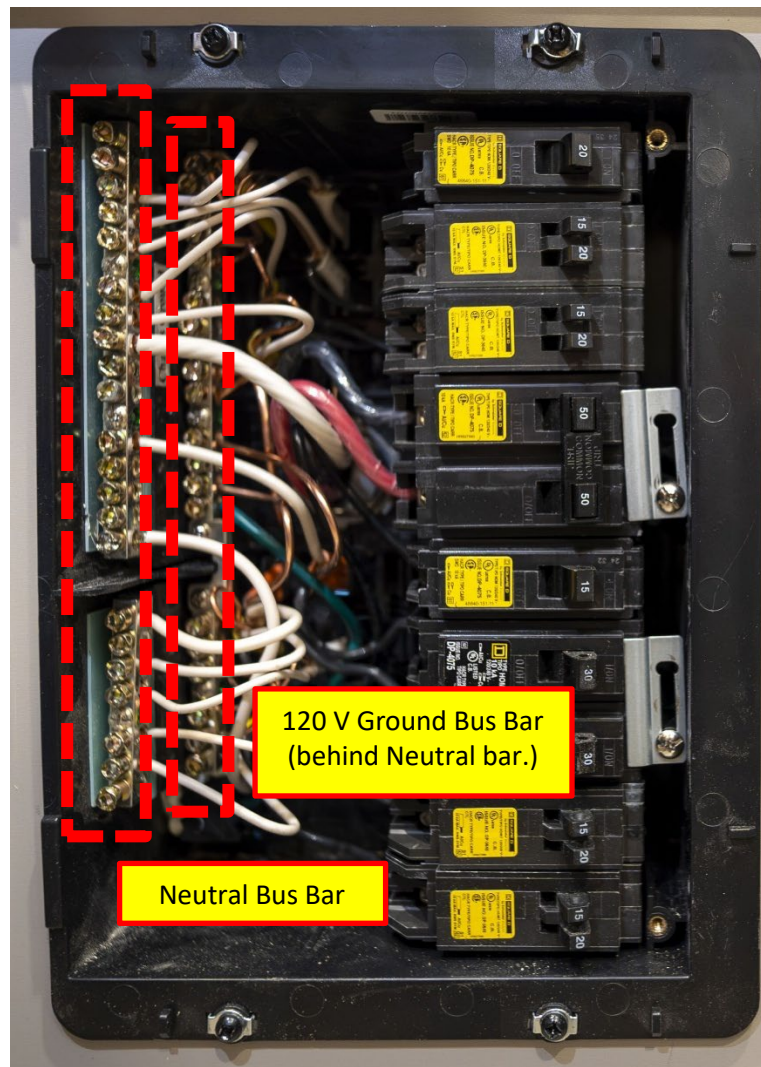

Figure 73. WFCO Power Control Center with the safety cover removed.
4. Remove the AC power distribution center cover panel, exposing all ground and neutral bars for the AC connections. See Figure 73.